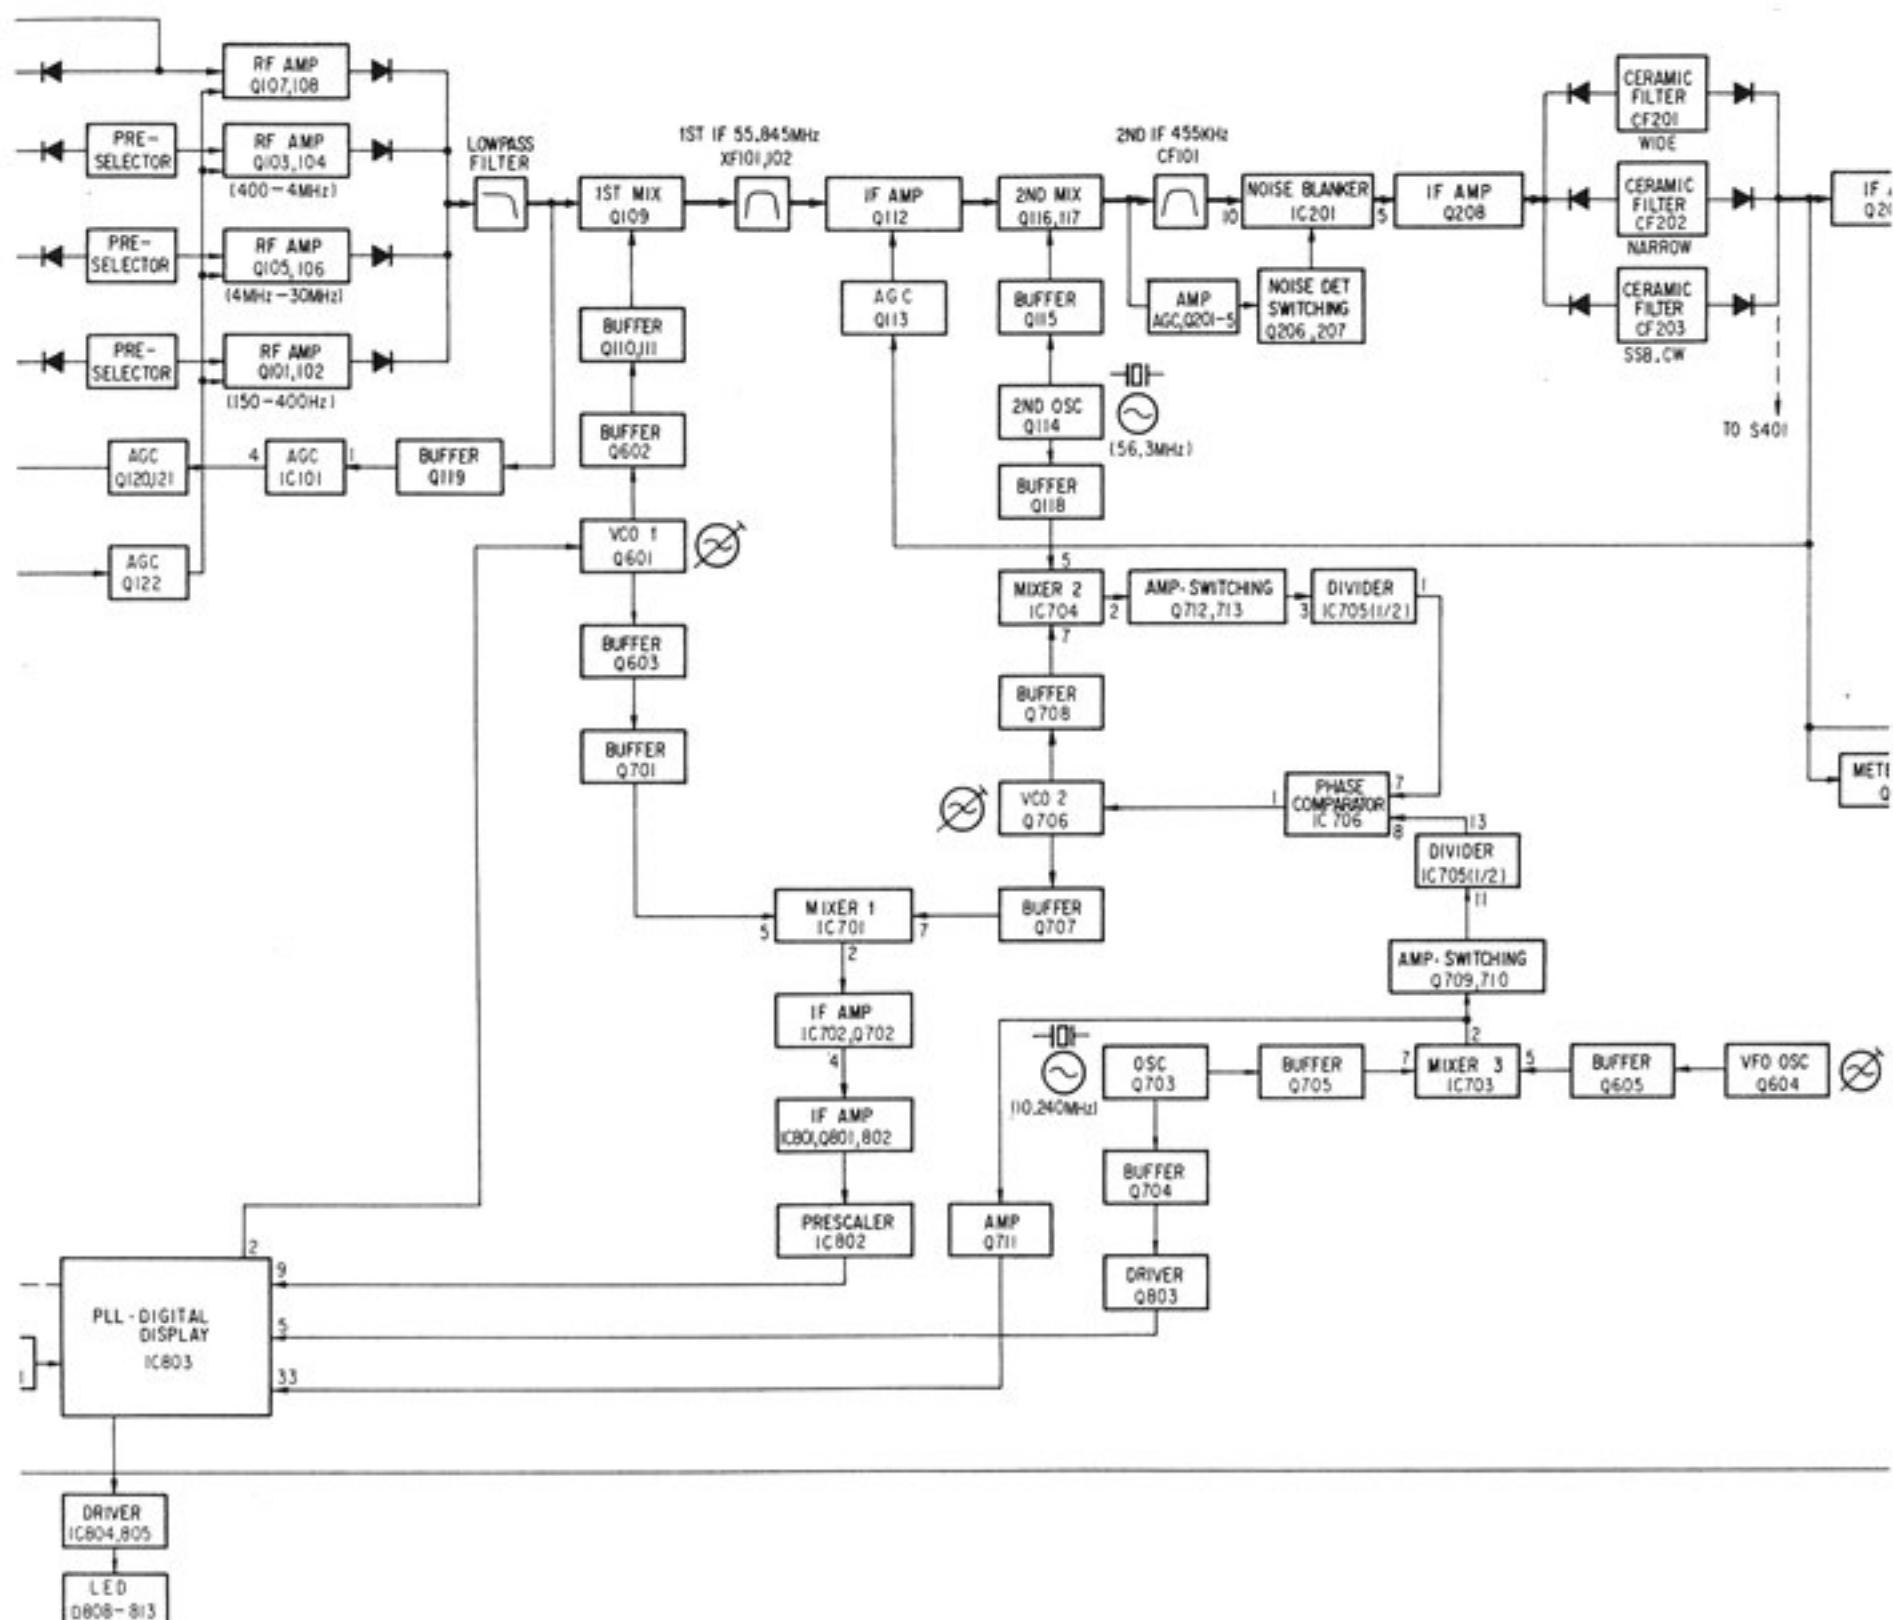

Fig. 3
Figure 3 shows a block diagram of this circuit.
• PLL Circuit (See Fig. 3.)